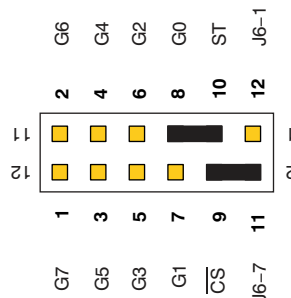
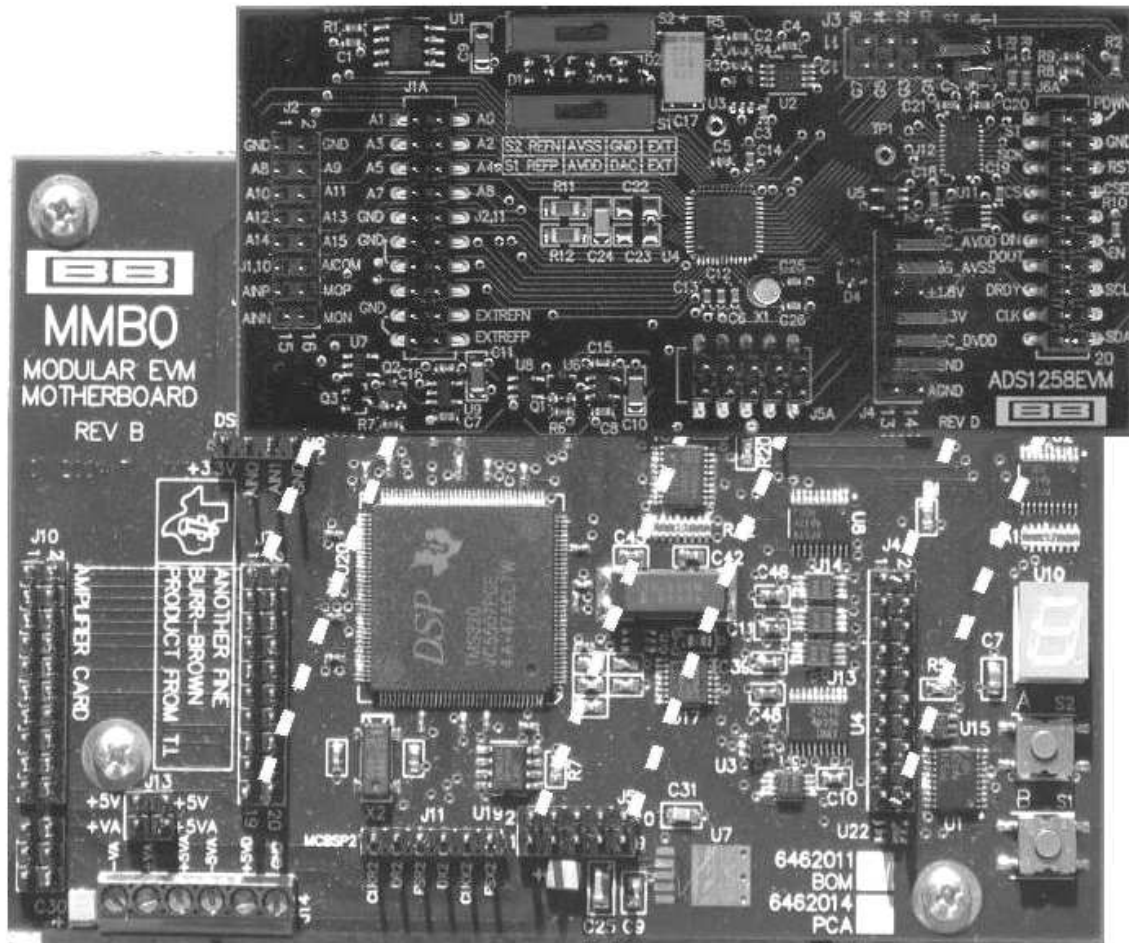

Figure 2. J3 Pin Configuration
Figure 5. Connecting the ADS1258EVM to the MMB0
The GPIO connector, J3, carries the GPIO pins for the ADS1258. J3 is arranged so that GPIO0 and GPIO1 can be used to control START and $\overline{\text{CS}}$, respectively; see Figure 2 and Figure 5. The PDK firmware controls START through GPIO0. CNTL(J6-1) and FSX(J6-7) are also brought to J3, so they can also be used to control START and $\overline{\text{CS}}$. Both FSX and CNTL are pulled down, so these pins can be used to keep START and $\overline{\text{CS}}$ low if they are not to be used.
3. Plug the ADS1258EVM into the MMB0, as shown in Figure 5.